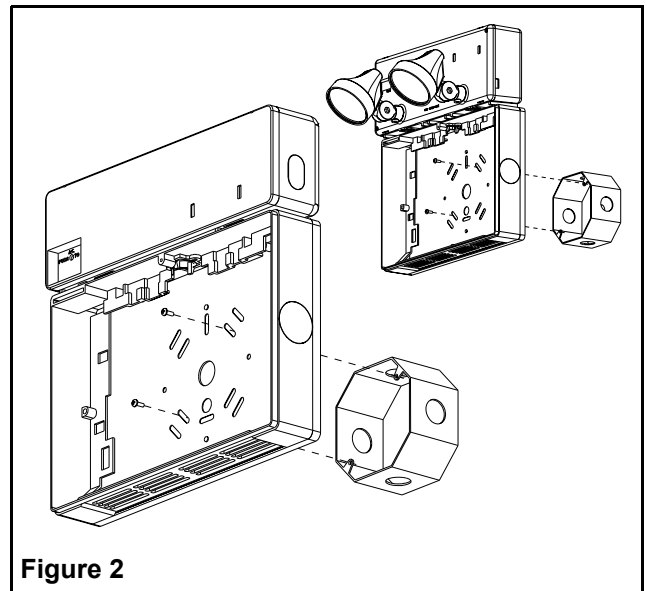

Figure 2
- a. Knock out proper holes in exit back according to the type of electrical box being used (see fig. 2). Route AC wires from power pack down through wiring access hole and into exit housing. Screw fixture to electrical box.